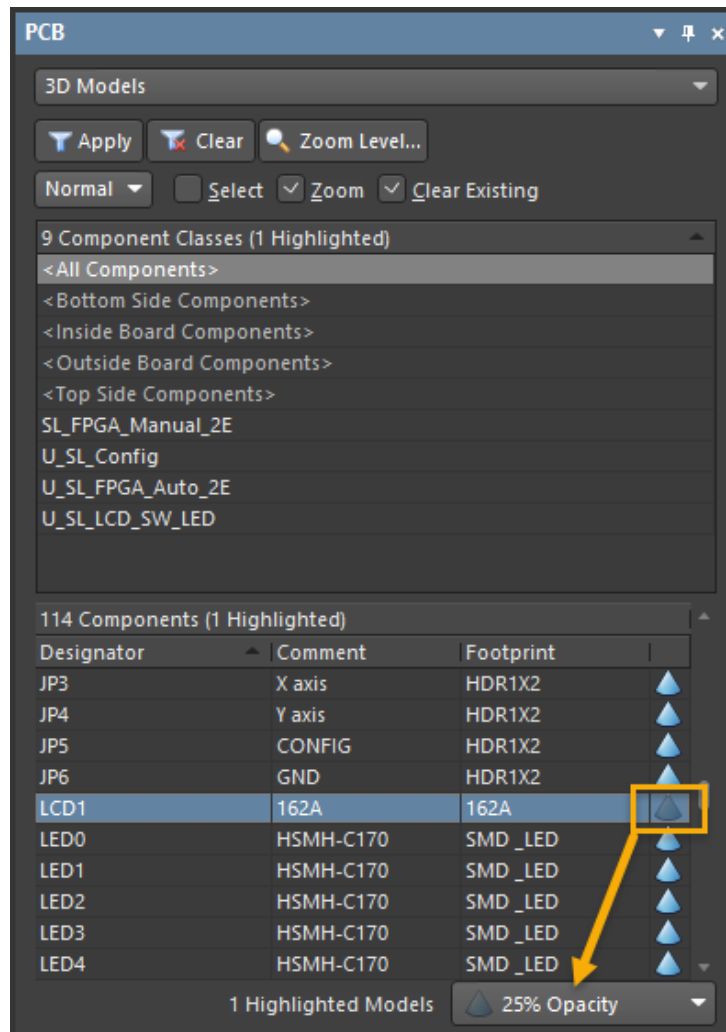

Figure 7. Locate LCD1 using the PCB panel
- c) Scroll down through the components in the center area of the *PCB* panel to the LCD display, **LCD1**, and select it as shown in Figure 7.